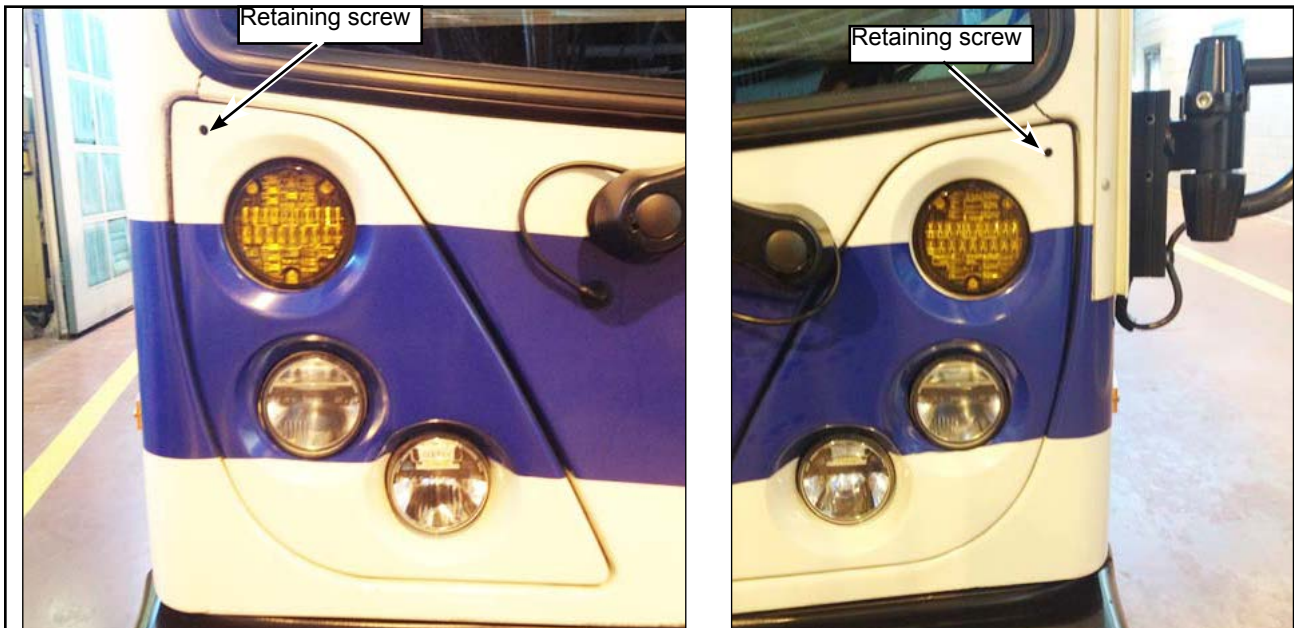

Figure 34 - Install Headlight Bezels
- 1.35. Reinstall the headlight bezels by screwing in the recessed retaining screws (see Figure 34).